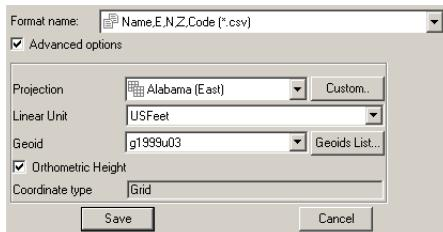

Figure 4-54. Parameters for Created Coordinate File
5. When saving a file as a coordinate file, it is possible to set the desired projection/datum, linear units, and to select or add a geoid file (Figure 4-54).